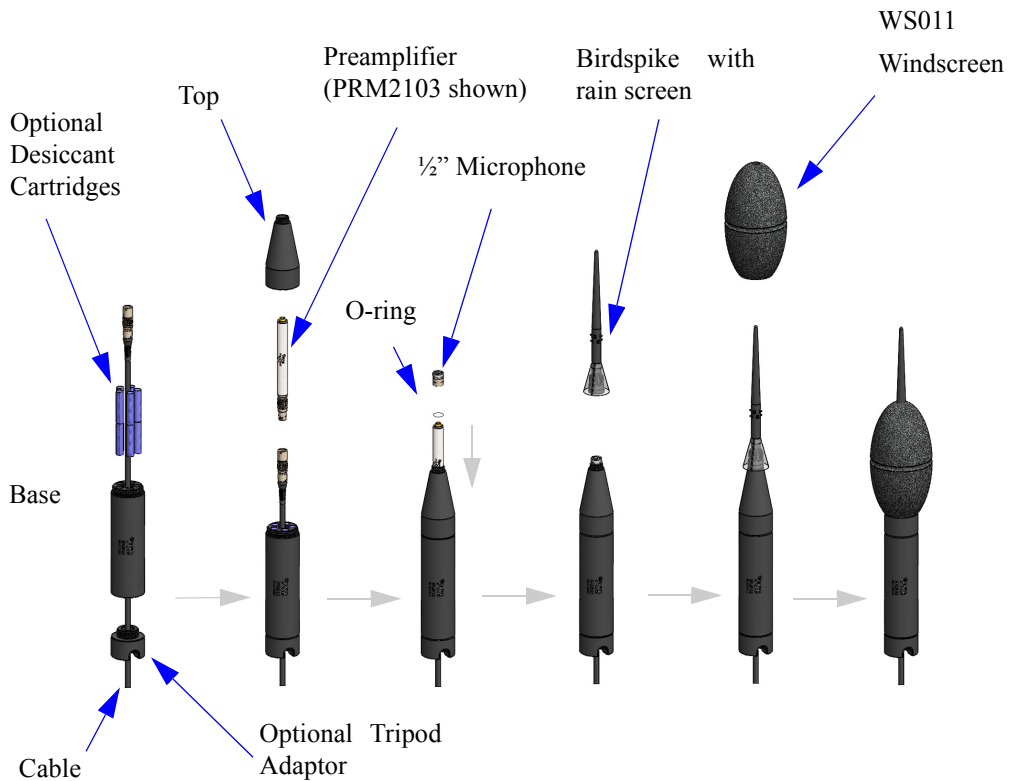

FIGURE 2-1 EPS2116 Assembly
- For the TRP001 or another camera tripod, thread the cable through the tripod adaptor first and then screw the adaptor to the base, as shown in Figure 2-1. Then secure the tripod adaptor to 1/4-20 thread mounting screw on the tripod. Make sure the cable is positioned at the bottom through the arched cable opening on the tripod adaptor.